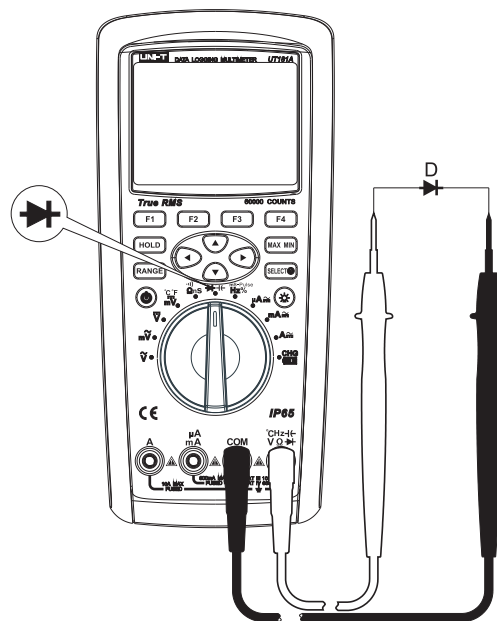

Figure 10
- 2) Set the rotary switch to the measurement $\rightarrow$ $\rightarrow$ and the diode measuring mode $\rightarrow$ is default. Connect the test leads to both ends of the measured diode as shown in Figure 10. Directly read the approximate forward PN junction voltage of the measured diode on the display.